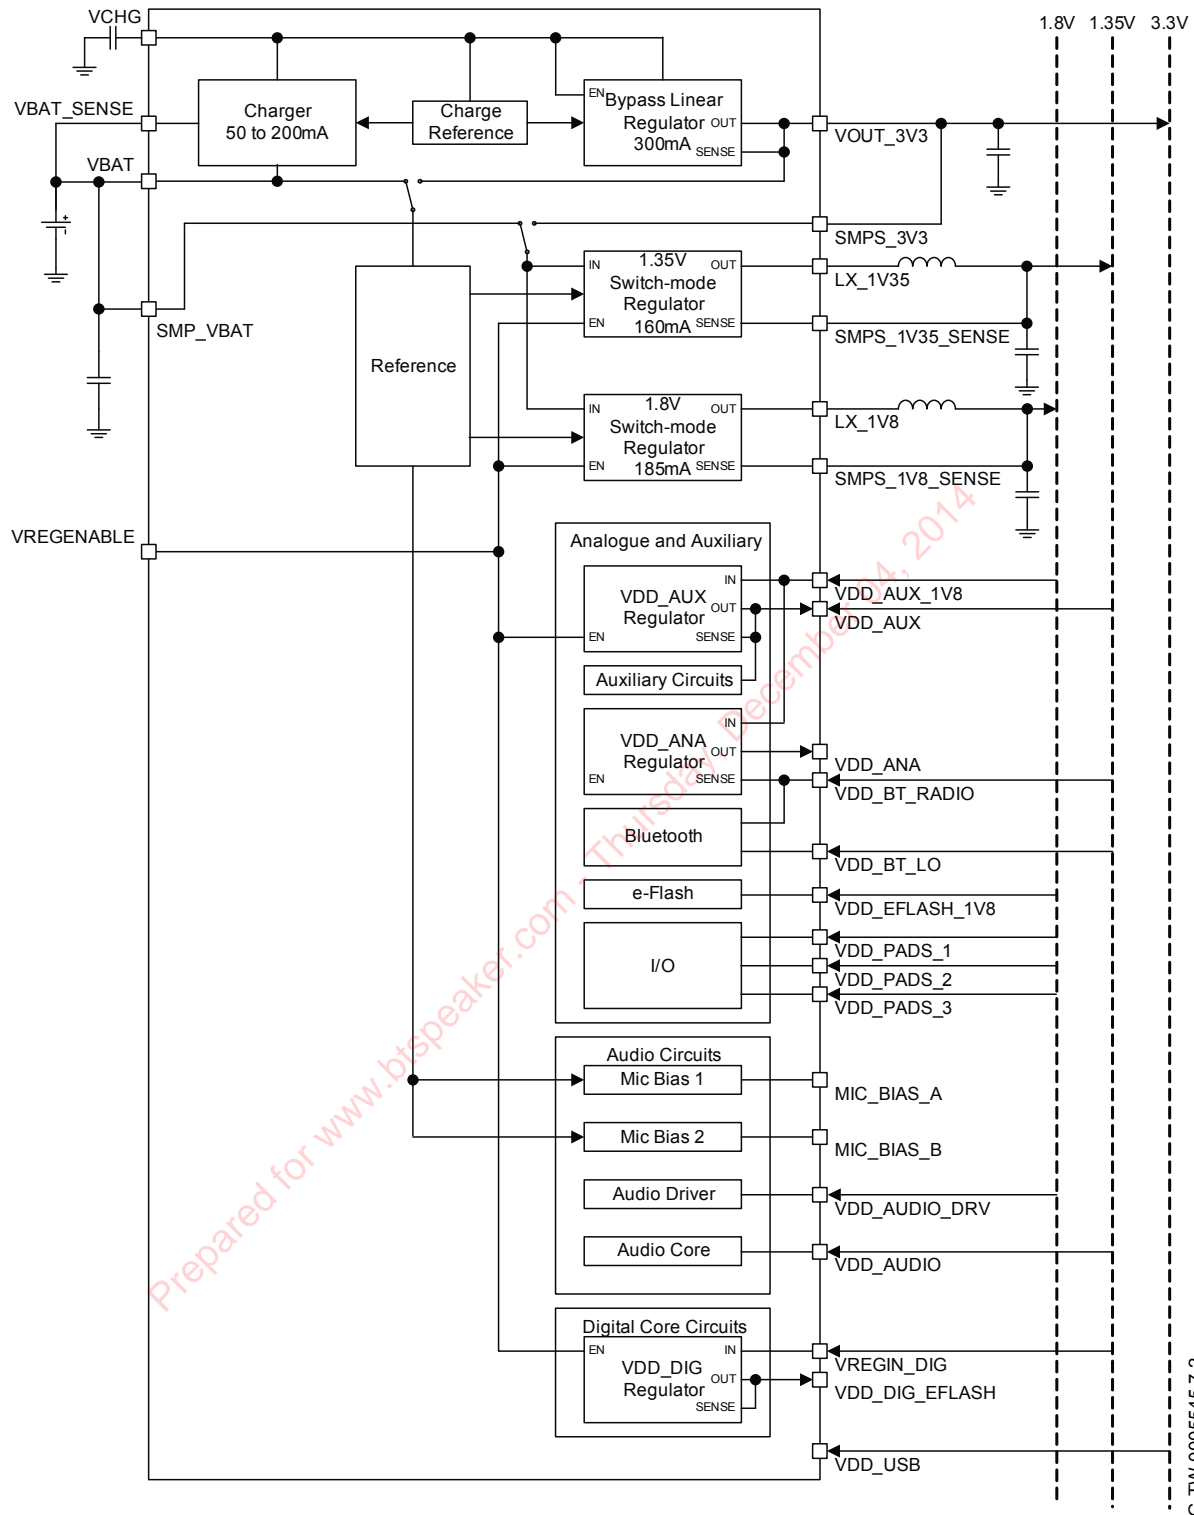

Figure 12.1: 1.80V and 1.35V Dual-supply Switch-mode System Configuration
- A 1.80V and 1.35V dual-supply rail system using the 1.80V and 1.35V switch-mode regulators, see Figure 12.1. This is the default power control and regulation configuration for the CSR8675 BGA.